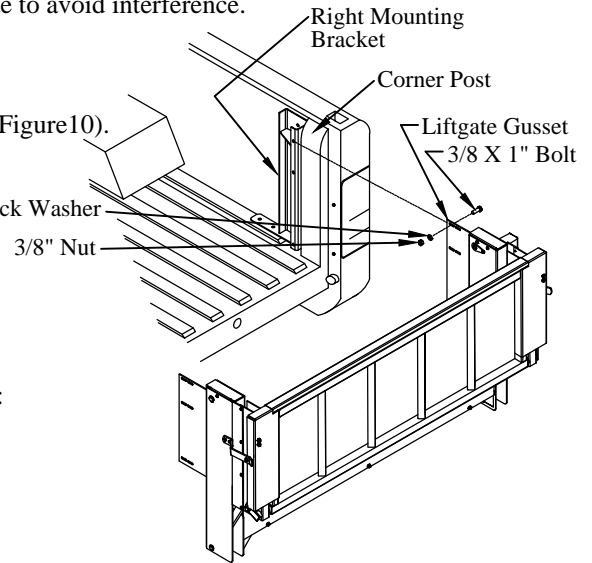

Figure 10: Mounting bracket and liftgate.
2. **Position** the mounting brackets into the truck bed in front of the corner posts (Figure 10).
- (3) 3/8"x1" hex head bolts on the bracket-side (Figure 10).
- (3) 3/8" lock washers, and (3) 3/8" nuts on the gusset-side (Figure 10).
8. **Drill** two (2) 3/8" holes into the truck bed floor using two holes in the bracket as a guide (Figure 10).